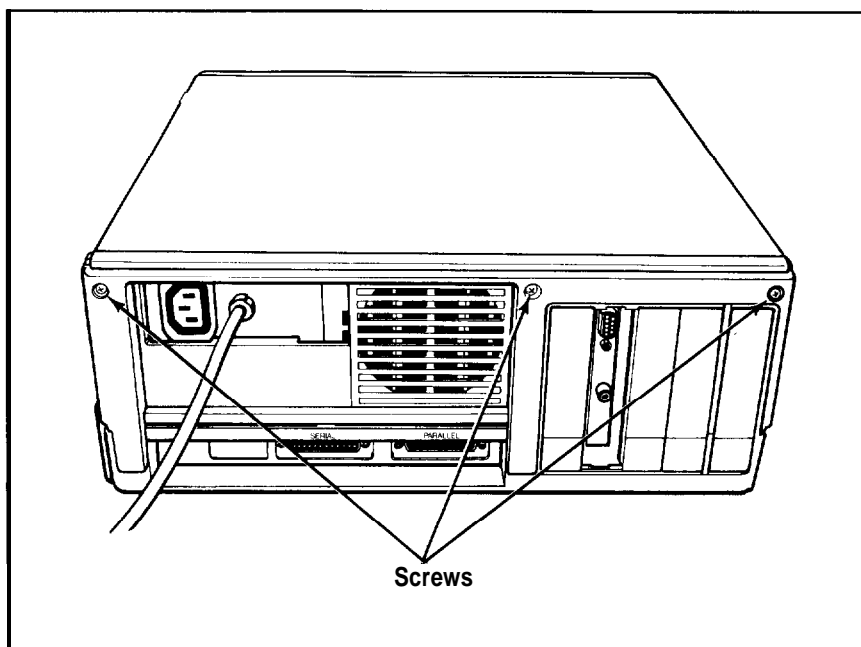

Figure 5-1. Back panel screws
2. The back panel is secured with three screws as shown in Figure 5-1. Remove the screws with a Phillips screwdriver, and put them to one side. Slip the back panel off the main unit.